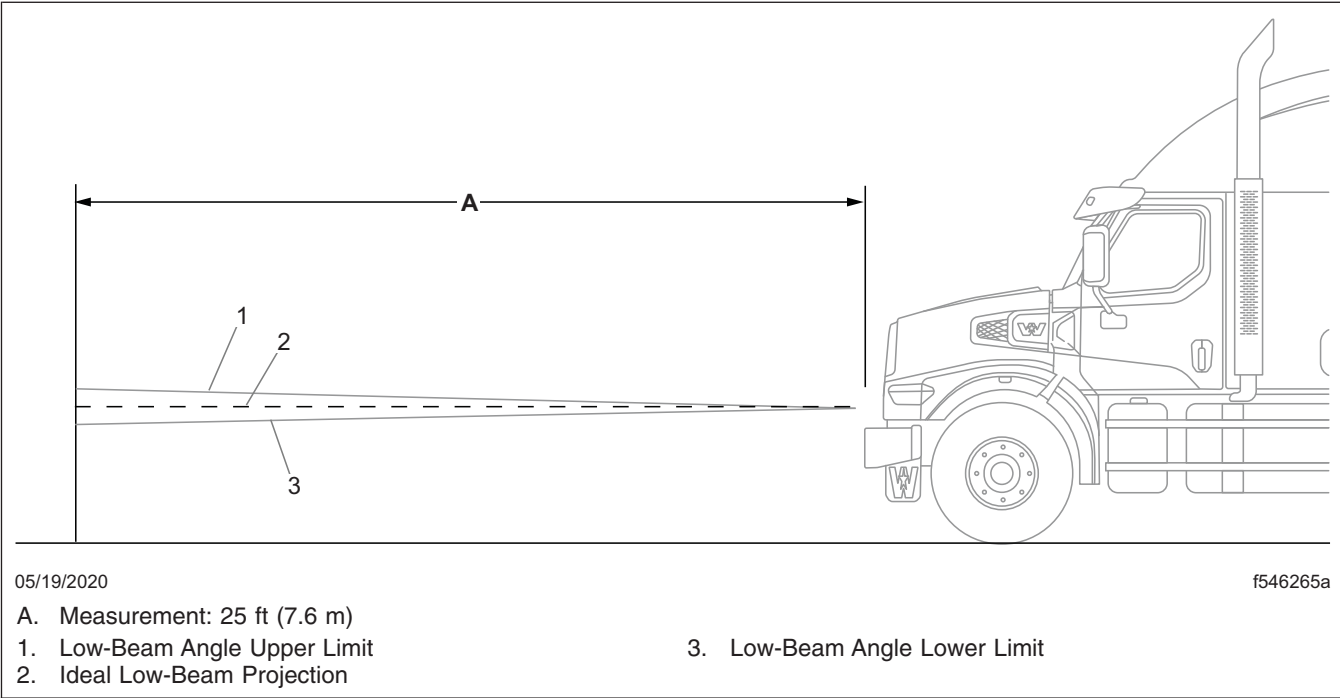

Fig. 20.3, Vertical Low-Beam Headlight Variation Limits
5. Check the vertical adjustment of the low beams. The center of each beam projection should fall on or near the marks made during step 3. See Fig. 20.3.